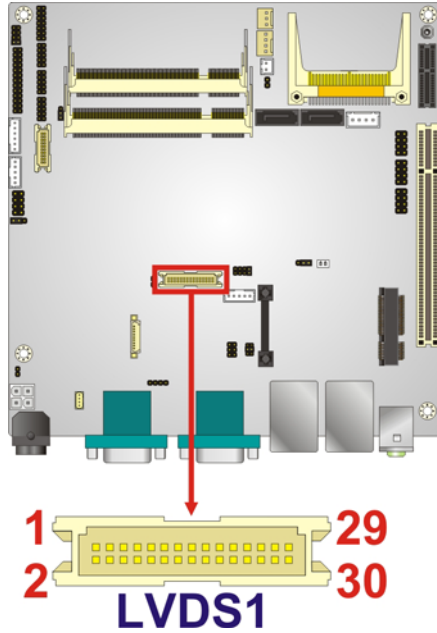

Figure 3-12: LVDS1 Connector Location
CN Location: See Figure 3-12
- CN Location:** See **Figure 3-12**